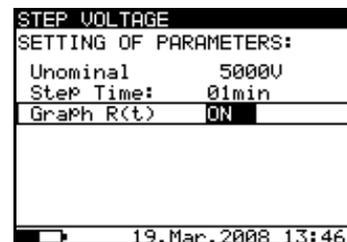

Fig. 25. Set-up menu in Step Voltage measurement
- Press the **SELECT** key, Set-up menu appears on display, see the **Fig. 25**.